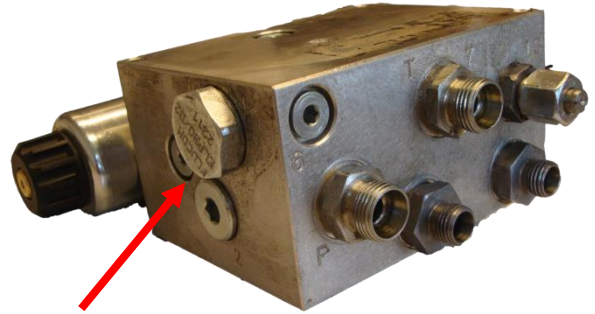

Figure 6 Selector plug
- Place the plough and the angle sensor in the central position. Choose the hole in the sensor arm, depending on the range of the angle sensor. See Table 1 and Figure 6. Selecting the best possible hole ensures that the greatest possible voltage range is reached for the sensor. The correct position of the ball joint in the width bar can now be determined. Mark off the position where the ball joint will be attached. Drill a hole here and tap a screw thread.
The hydraulic manifold can be used either in Load-Sense (LS) or Open Center (OC) mode. A selector plug must be used in the manifold, depending on the type of hydraulics used (Table 2, Figure 7). Check the type of selector plug (Figure 6) before mounting the manifold to the plough.